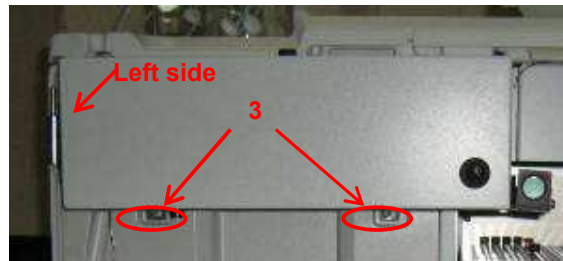

Figure 4: Removing the Column Oven
4. Once the plumbing has been removed, you will then need to remove the column oven (if you do not have a column oven installed skip to Step 5). Remove the column oven by removing the 2 anchoring screws (3) on the bottom of the column oven unit (Figure 4). Once the screws have been removed you can slide the column oven off by sliding it to the right.